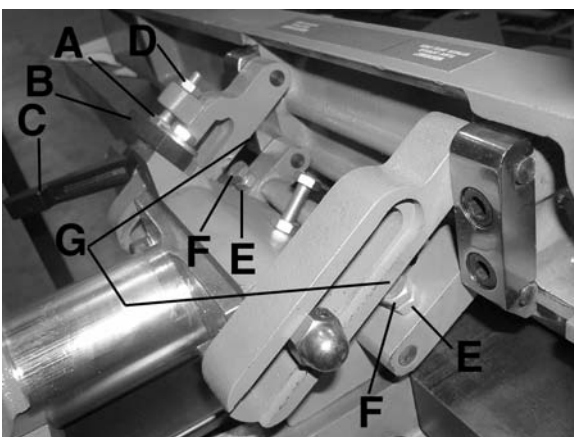
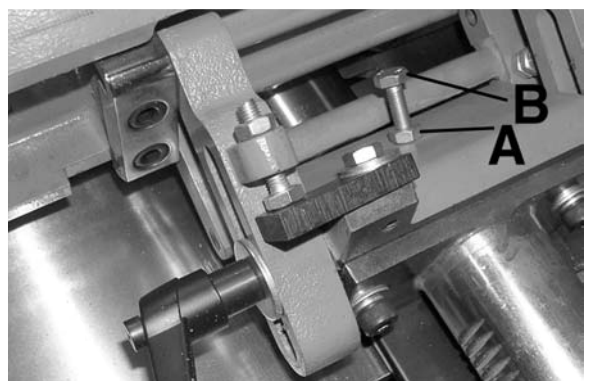

FIGURE 10
FIGURE 11
1. Position the fence 90° to the table making sure tip of stop bolt (A) Fig.10 is against stop plate (B). Then tighten lock handle (C).
3. If the fence is not at 90° to the table, loosen lock handle (C) and lock nut (D). Turn stop bolt until its tip contacts the stop plate (B), tighten lock handle (C).
4. Tilt the fence inward as far as possible and using a combination square (45°), check to see if the fence is tilted inward 45° to the table. If an adjustment is necessary, loosen nuts (E) and adjust bolts (F) until tips of bolts (F) contact brackets (G).
5. Tilt the fence outward as far as possible and using a combination square (45°), check to see if the fence is tilted outward 45° to the table. NOTE: 90° stop plate (B-Fig.10) must be rotated up in order to tilt the fence outward. If an adjustment is necessary, loosen lock nut (A) Fig. 11, and adjust bolt (B) until head of bolt (B) contacts back of fence.